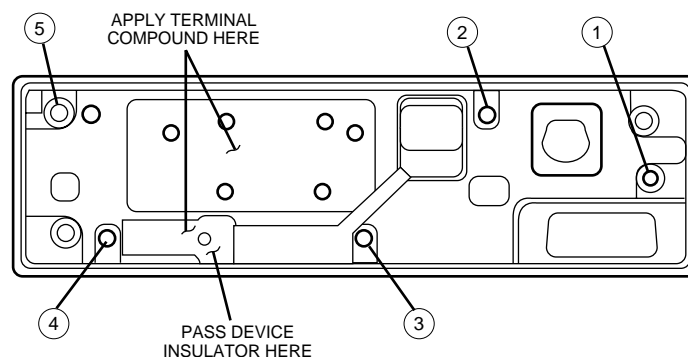

Figure 8-3. PA Board Screw Fastening Sequence (800 MHz 15-Watt PA)
5. Install the PC board, and then attach and tighten the screws (torque 8-10 in.-lbs.) in the sequence shown in Figure 8-3.